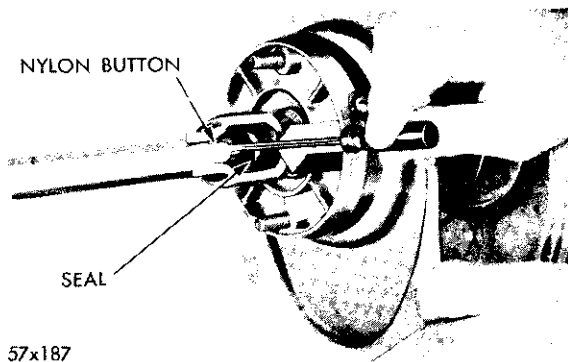

Fig. 52—Removing the Nylon Button from the Rod
(6) Using a thin blade screwdriver and a 1 inch square block, pry the nylon button from the end of the valve shaft, as shown in Figure 52. Slide the valve rod seal from the end of the rod.